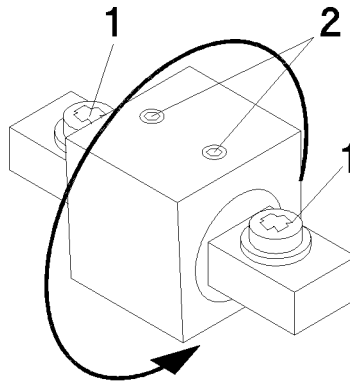

Figure 3-13. Mirror Screws
- Is the mirror a new replacement part? If yes, it could be that an additional step is needed for mirror adjustment. See Figure 3-13.